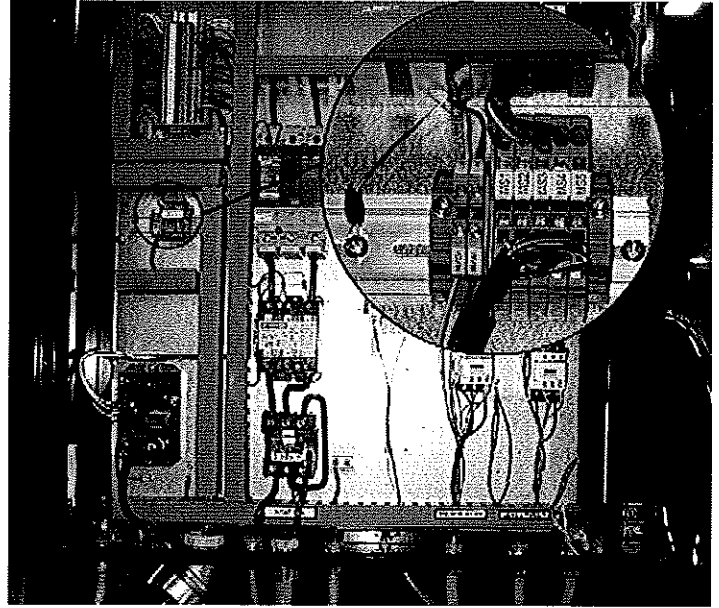

Figure 40
- Moisture Sensor connection points in the High Voltage Cabinet are labeled M1-M5. See Figures 40 and 41.